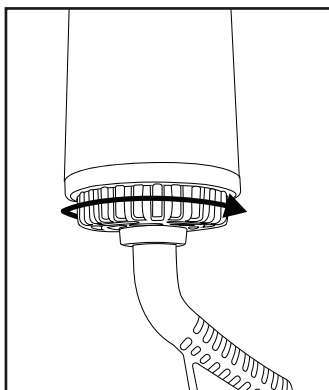
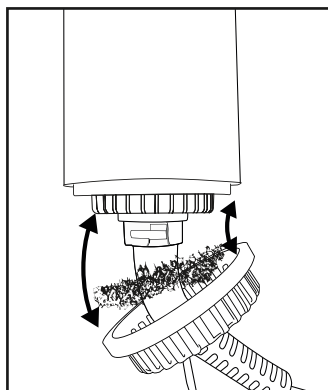

Fig. 3
Fig. 4
- Remove hair from the attachments ⑧–⑪ with your fingers. Place the attachments ⑧–⑪ in lukewarm water to clean them. You can use mild detergents, but make sure to rinse it off thoroughly afterwards with water. Allow the attachments ⑧–⑪ to dry completely before re-attaching them to the appliance.
- Make sure that the air intake grille ④ is free of hair and fluff. Clean it with the help of a dry brush.
- Clean the filter behind the air intake grille ④ at regular intervals, at the latest when dirt is visible. To do this, remove the air intake grille ④ (see figs. 3 and 4) by turning it until it stops moving and then pulling it down (if necessary, turn it slightly back and forth at the same time). Remove lint and dirt from the filter with your fingers and a soft brush if necessary. Press the filter back into the basket of the air intake grille ④ so that you can then put the air intake grille ④ back on. Slide the air intake grille ④ onto the receptacle on the appliance and screw it tight. Note the two small recesses on the base of the power cable ⑥ (see fig. 4), into which the matching counterparts on the inside of the opening in the air intake grille ④ must be pushed.